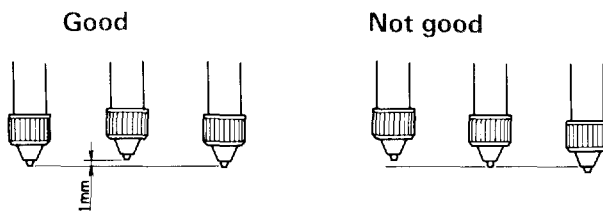

Fig. 18
- If the three marking nibs are not at the same level, fasten each screw tightly. (Fig. 18)